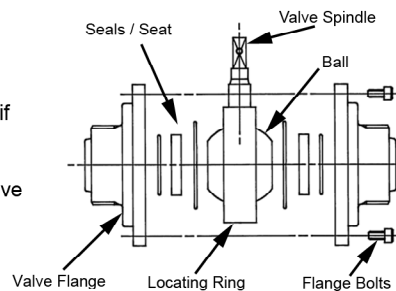
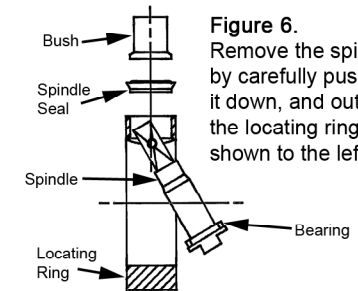

Figure 5. Remove flange bolts and separate the valve halves to reveal valve internals
Figure 6. Remove the spindle by carefully pushing it down, and out of the locating ring as shown to the left.
4. Place the valve assembly on the bench and carefully remove the seals and all valve internals from the valve flanges. See figure 5. PTFE seals are easily damaged, take care when removing. The spindle seals can be carefully removed from the location ring as shown in fig 6.
5. To refit the spindle seal first fit the bearing onto the spindle then insert the spindle into the locating ring as depicted in figure 6. Hold the spindle in place with the bearing correctly located in the inner recess of the locating ring. Next push the spindle seal with "O" ring facing upwards onto the spindle followed by the bush. Push the spindle seal firmly into the locating ring using the bush. Make sure the spindle seal is fully home.